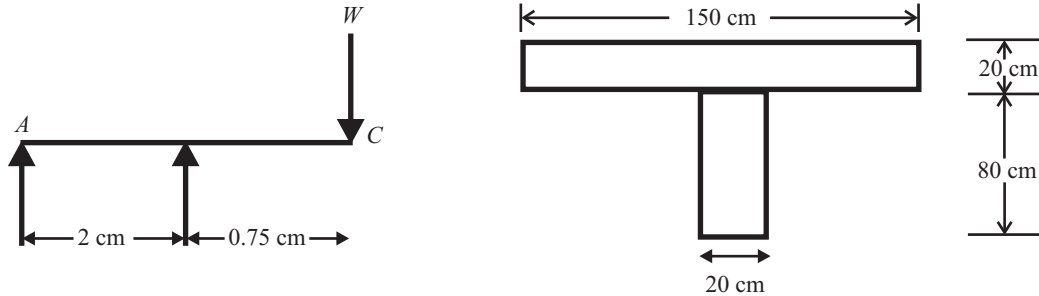

Fig 16.20
Q. 29: A C.I. beam 2.75m long is shown in the fig 16.20 with support reaction $R_A = 0.375W$ and $R_B = 0.625W$, with loads. The beam has T-section. If tensile and compressive stress are not to exceed 40N/mm², and 70 N/mm² respectively. Find the safe concentrated load 'W' that can be applied at the rigid end of the beam.